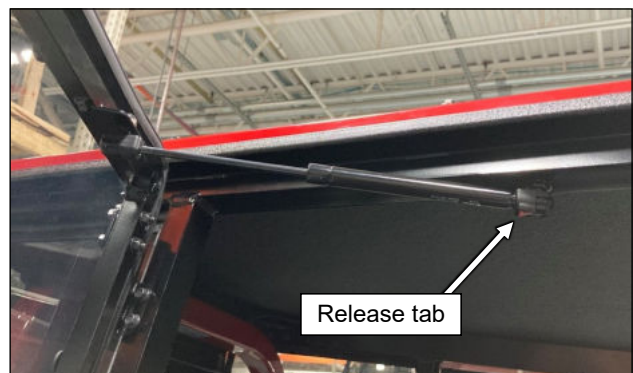

Fig. 11.5 (Door gas shocks, right shown)
11.5 See fig. 11.5. Re-install doors and install gas shocks. The end with the red tab should be attached to the side frame of the vehicle.